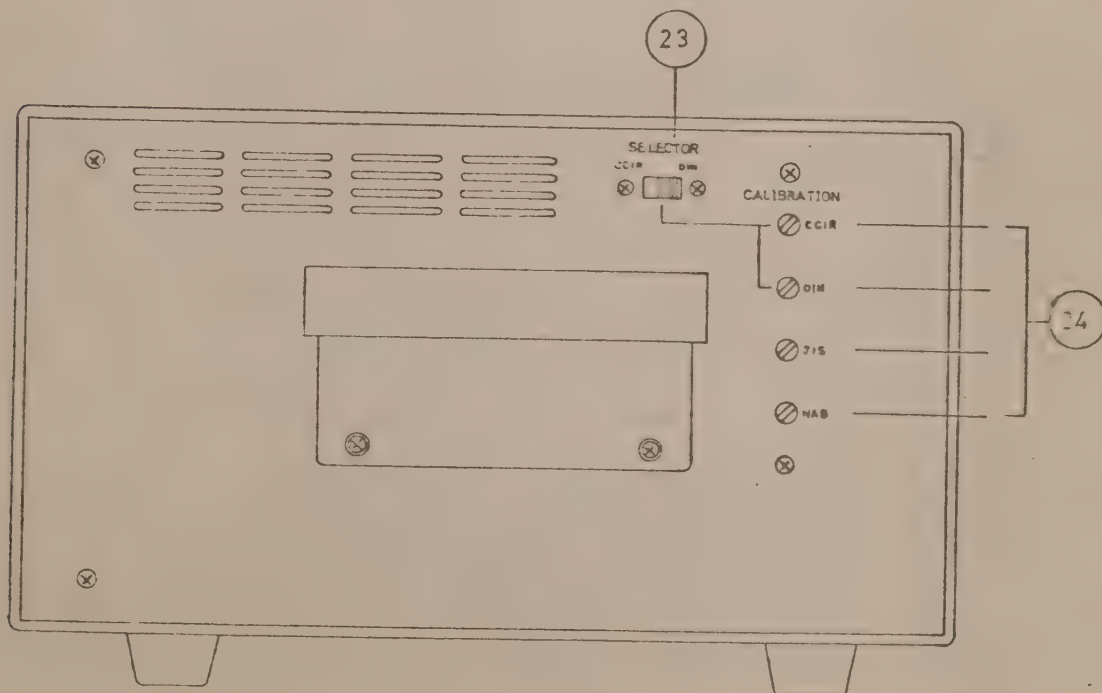

Fig. 1-3 Left side of case.
1.3.3 Left Side of Case, Fig. 1-3